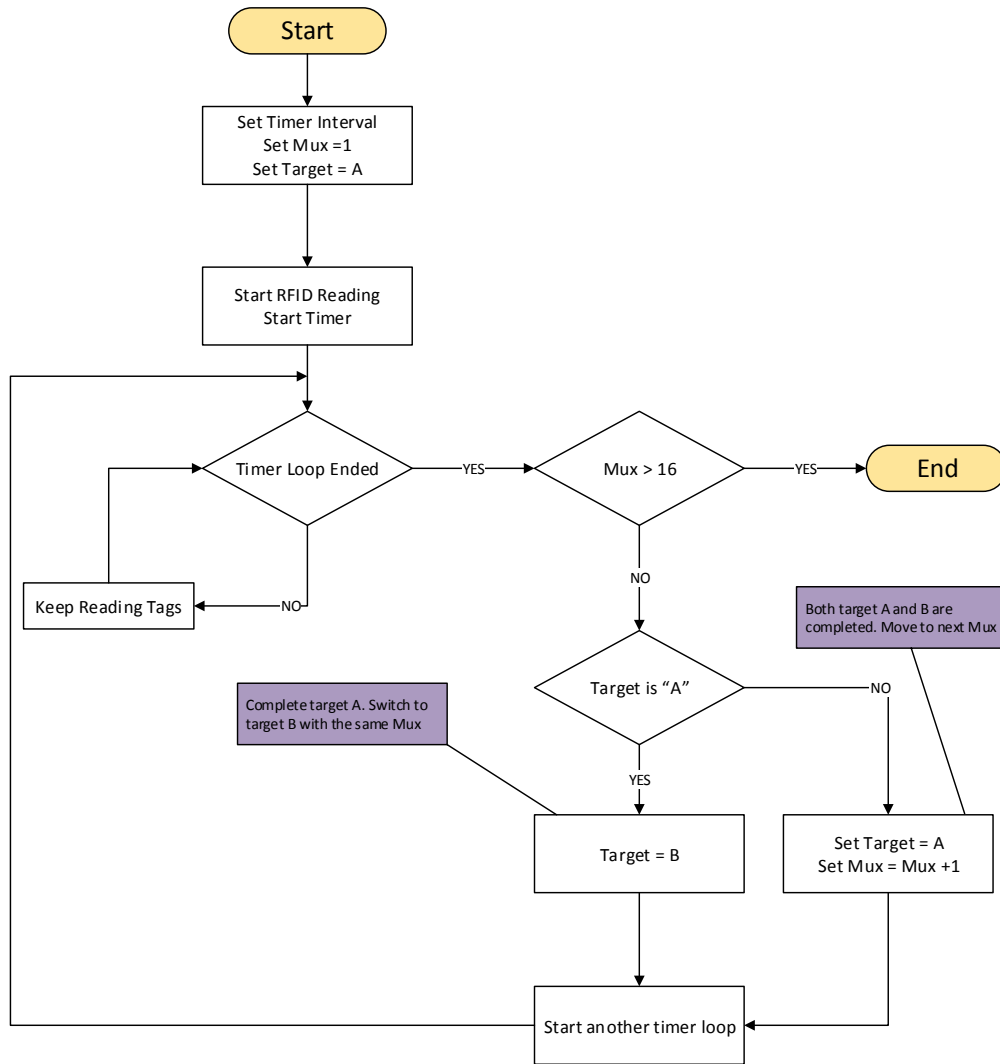

Figure 14. Flowchart of Individual Antenna Reading
- Individually radiate each antenna patch, read tags in the cabinet (Figure 14).
Test Process	The antenna is enabled one by one while reading. The detail process is presented in Figure 14 The timer interval is set as 20 seconds, which is also the reading time period